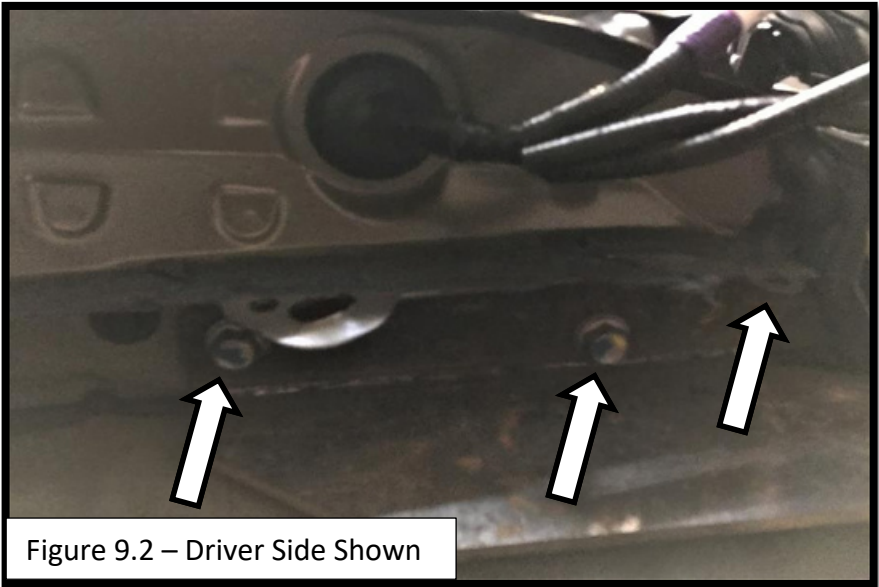

Figure 9.2 – Driver Side Shown
- Install the driver and passenger side Support Brackets to the bottom of the vehicle frame. Install one 12mm-1.25 x 40mm bolt with one lock washer and one flat washer into each hole. There are 3 holes per side. See figure 9.2.